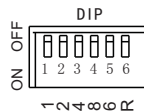

Fig. 2
- (1) DIP switches: SW1~SW3 for programs selection, please see Attached Table (1=ON, 0=OFF). SW4 and SW5 are unused; SW6 for remote controller (see fig. 2)